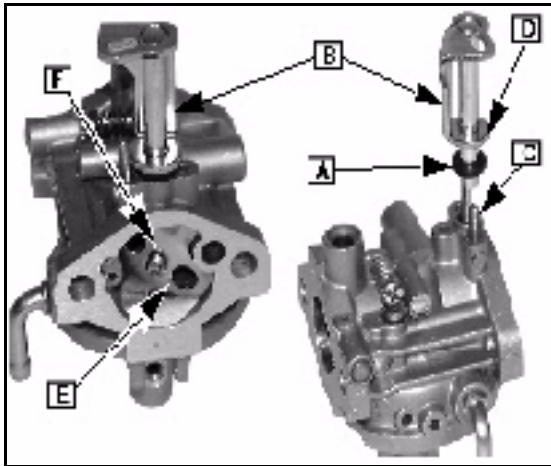

Fig. 117
2. Place new seal ([A] Fig. 117) lip down on the choke shaft (B). Insert shaft into carburetor while engaging detent spring
(C) on choke lever detents ([D] Fig. 117). Rotate shaft closed.
3. Place choke plate (E) on choke shaft (B), secure with screw ([F] Fig. 117).